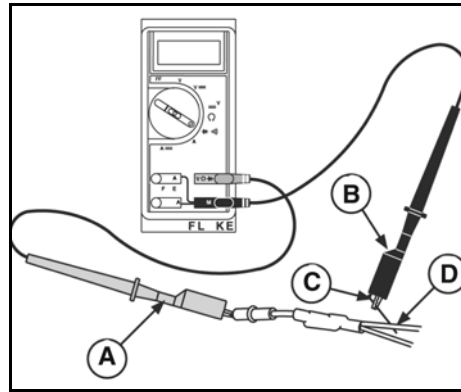

Figure 24
1. Insert RED test lead (A, Figure 24) into the V  $\Omega$  receptacle and set the rotary switch to Diode position.
2. Insert BLACK test lead (B) into the COM receptacle in the meter.
3. Attach BLACK test lead clip to (C) of the RED wire (D). (It may be necessary to pierce wire with a pin as shown.)
4. Insert RED test lead (A) into harness connector.